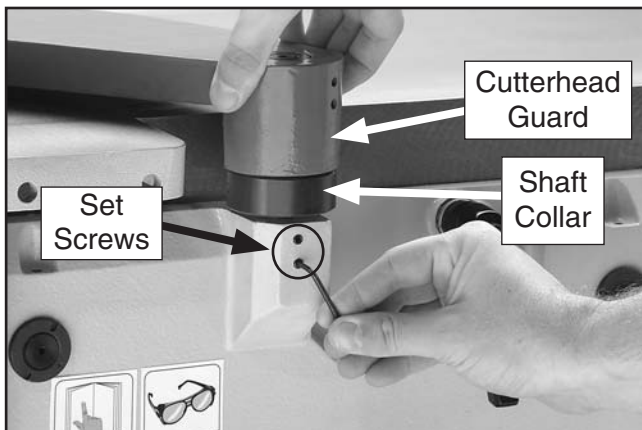

Figure 1. Installing cutterhead guard.
2. Unthread the ends of the set screws shown in **Figure 1** so they are flush with the mounting hole.
5. While holding the shaft collar, tighten the set screws on the base (see **Figure 1**).
—If the guard does not spring back over the cutterhead, loosen the set screws on the base (see **Figure 1**), hold the guard over the cutterhead, wind the shaft collar clockwise, then tighten the set screws. See if the guard works, adjust the collar as needed.